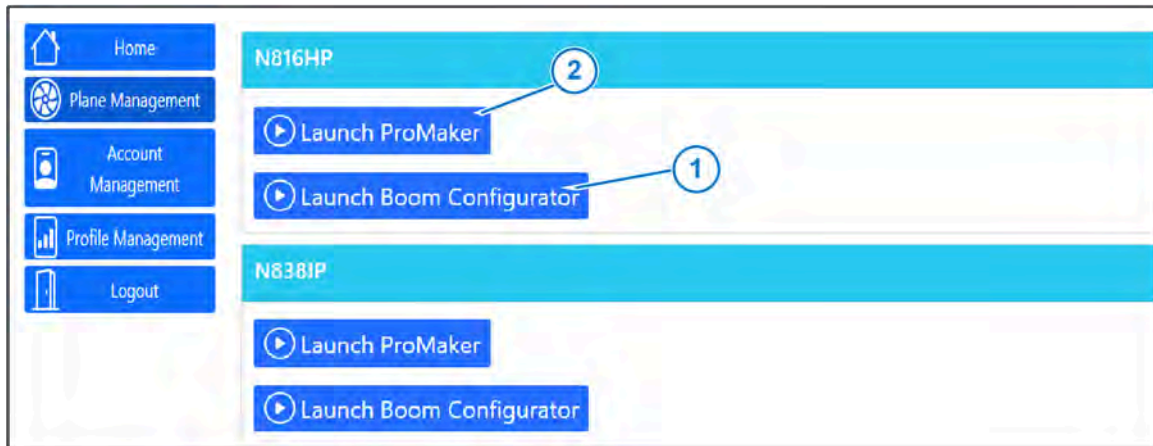

Figure 4: Home Screen
22. Select **Launch Boom Configurator** (Figure 4, Item 1) to make a boom configuration for the plane.
23. Select **Launch ProMaker** (Figure 4, Item 2) to make a profile.